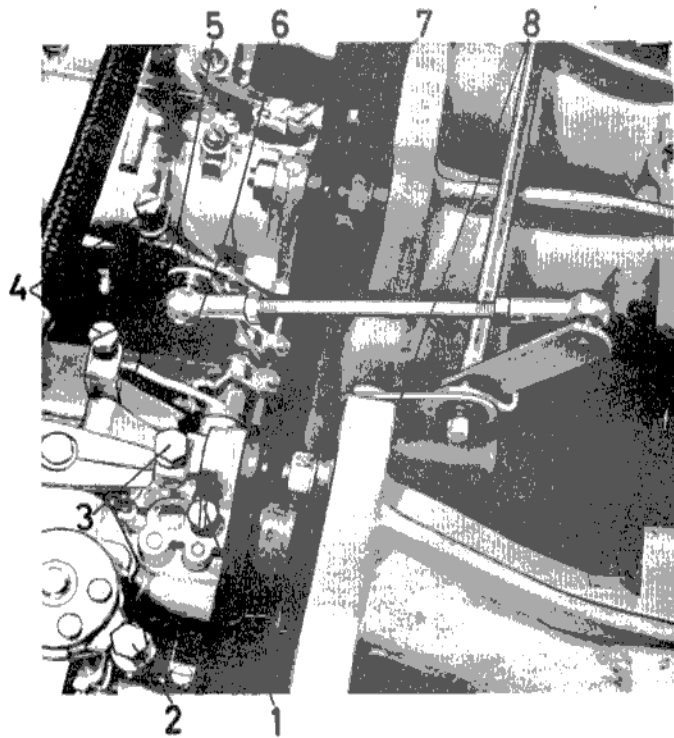

Fig. 3. Carburetors
Fit bracket 460039 for the throttle control with 2 screws 955512 on the front intake manifold, see Fig. 3.
Fit the rubber flanges 862463 with spacer gaskets 819769 against both intake manifolds and carburettors. Tighten the flanges with nuts 955847 and washers 955894. Install the carburettors and tighten union shaft 684901 with Nyloc nuts 950363 and washers 955894. The union shaft is fitted between the carburettor throttle flap shafts with the ball turned forwards. Make sure that the lever shafts fit into the holes in the carburettors, see Fig. 3.
Mount the upper throttle control shaft complete, 684899, in the corresponding way as for the standard engine (see Fig. 3). Connect it to the union shaft ball cup with control rod 943936, ball cup 959088, ball cup 942837, nuts 955780 and 942836. The control rod and ball cups should have a length of 129 mm (1 5/64") (centre - centre, ball cups).
1. Screw in both the idling air volume screws (1, Fig. 3) completely for the carburettor to be adjusted. Then unscrew them 1 1/4 turn. Start the engine and adjust the idle trimming screw so that 900 r.p.m. is obtained. Adjust the two idling air volume screws (4) until the most suitable idling speed is obtained.